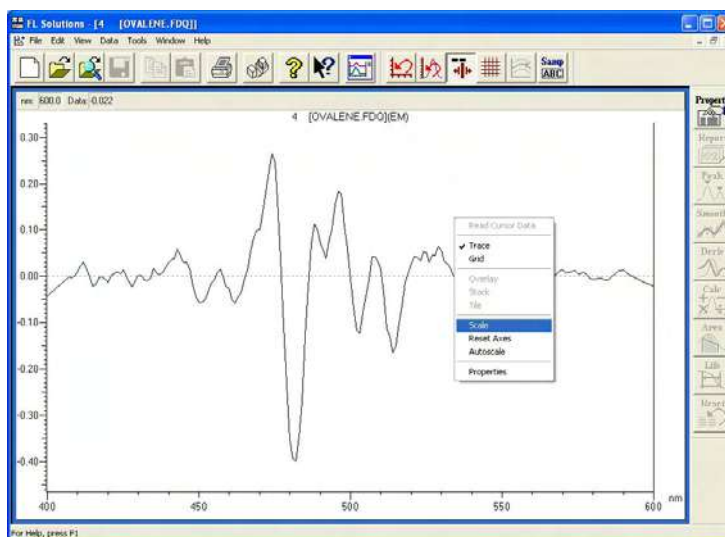

Fig. 7-63
- (3) Click the **Load Spectrum from Quant Data** button. A spectrum window as in Fig. 7-63 will appear.